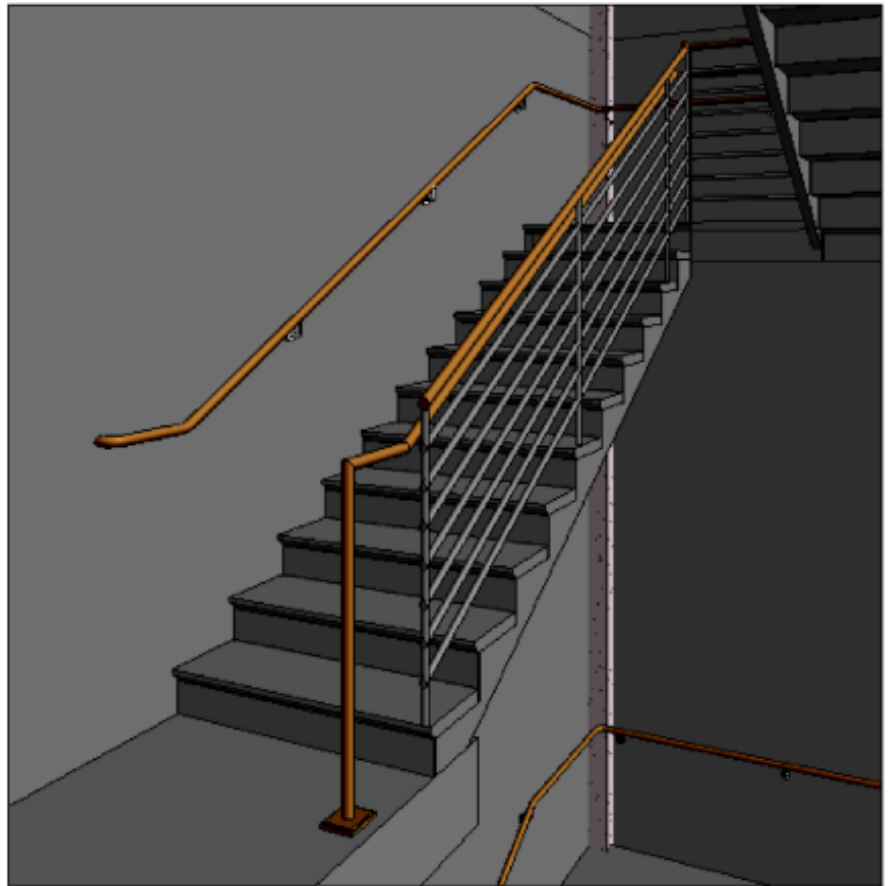

Figure 12–40
16. Click **OK**. The handrail changes as shown in Figure 12–40.
17. Open one of the other upper floor plans, as shown for Floor 5 in Figure 12–41. The stairs are in place and the guardrail handrail is modified at both ends.